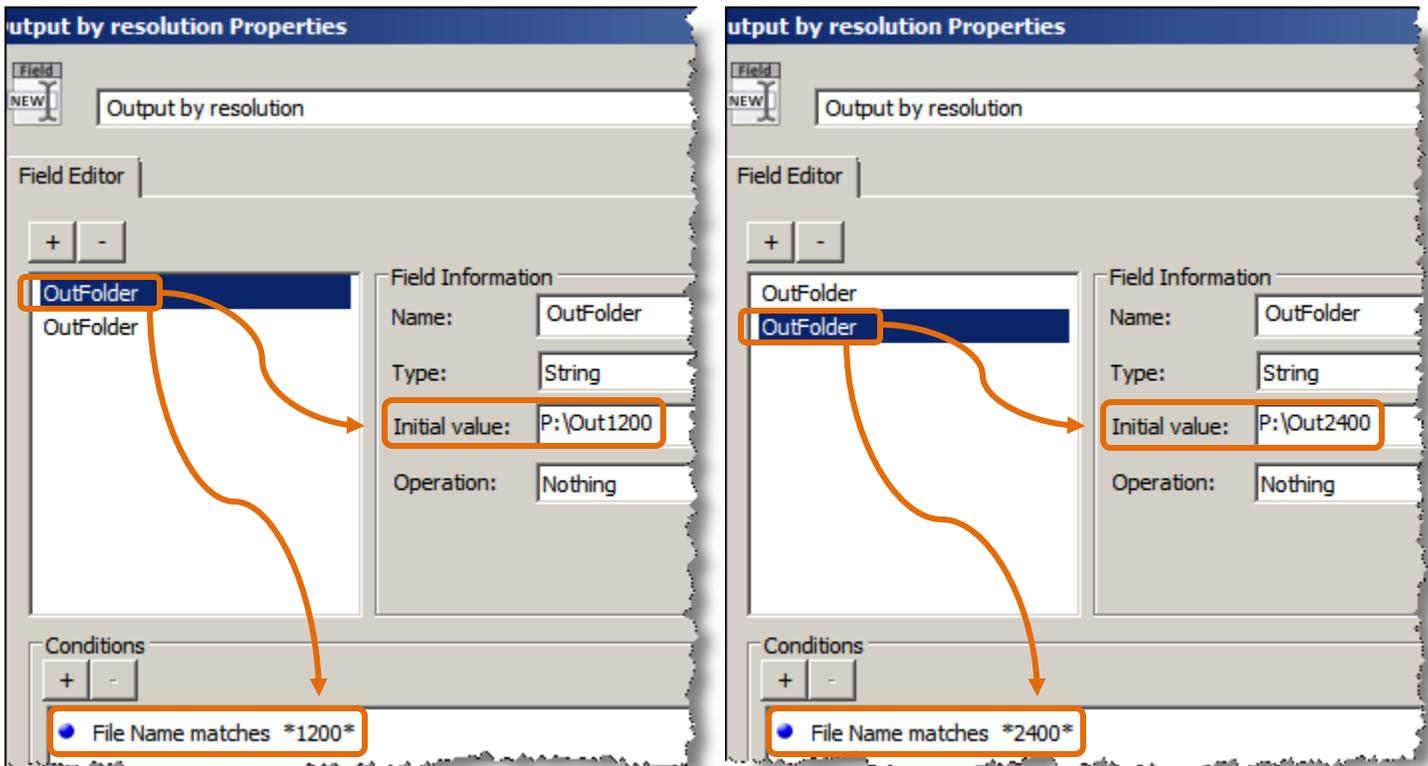

Figure 5 Field Creator Sample I - variable
- if it occurs that a file satisfies two conditions of the SAME variable, that variable will take on the **Initial value** of the last instance/condition shown at the bottom of the list – in the example shown in Figure 5 on p.6: if a file is submitted that contains both 1200 and 2400 in the filename, it will satisfy both conditions defined for the field variable `OutFolder`, therefore this variable will take on the **Initial value** of `P:\Out2400` since it corresponds to the last instance/condition of `OutFolder` appearing at the bottom of the list